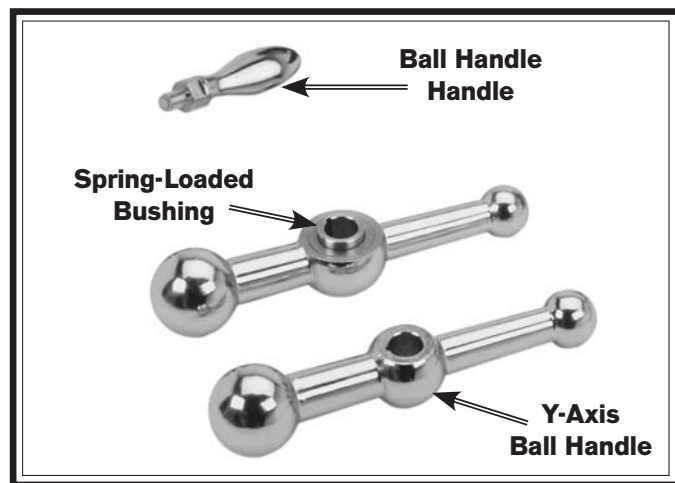

Figure 8. Ball handle assemblies.
The ball handles for the X-axis leadscrew have spring-loaded, keyed center bushings, as shown in **Figure 8**. This allows them to disengage from the leadscrew when using the power feed, avoiding an entanglement hazard.
2. Identify the two ball handles with the spring-loaded center bushings (see **Figure 8**).
6. Align the keyway of the ball handle with leadscrew key, slide the Y-axis ball handle (see **Figure 8**) onto the leadscrew, then secure it in place with the removed hex nut.